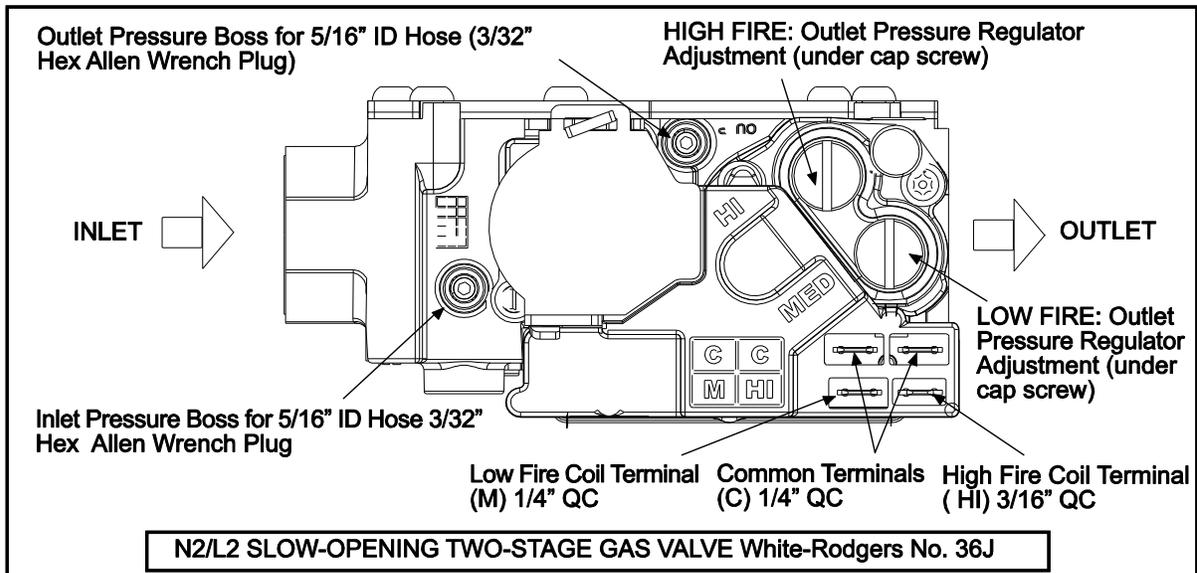

Figure 2
2. Remove regulator cover screw from the **low** outlet pressure regulator (see **Figure 2** below) and turn screw clockwise to increase pressure, or counterclockwise to decrease pressure. Replace regulator cover screw and tighten securely.
4. Remove regulator cover screw from the **high** outlet pressure regulator (see **Figure 2** below) and turn screw clockwise to increase pressure, or counterclockwise to decrease pressure. Replace regulator cover screw and tighten securely.